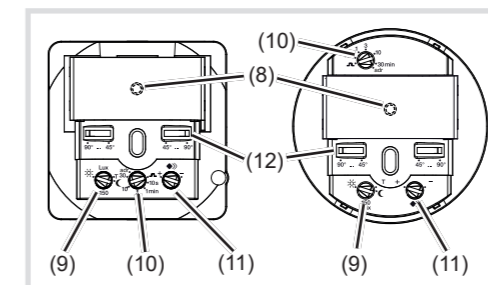

Figure 8
The detection angle can be restricted for the right side and for the left side via each adjuster (Fig. 8, 12) between 45° ... 90°. Thus, the detection angle can be between 90° and 180° (Fig. 5).
- To do this, set the response brightness potentiometer (Fig. 8, 9) to TEST.
- Turn the response brightness potentiometer (Fig. 8, 9) to the desired position.
- Turn the delay time potentiometer (Figure 8, 10) to the desired position.
- Turn the sensitivity potentiometer (Fig. 8, 11) to the desired position.